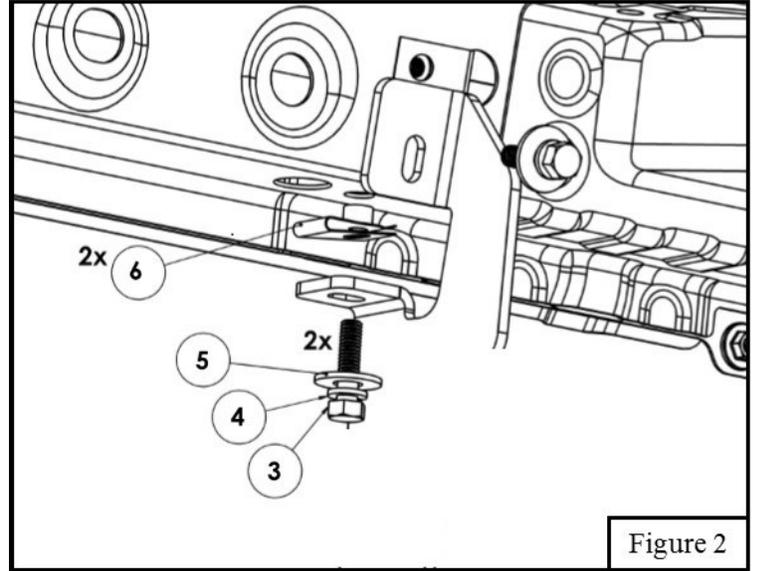

Figure 2
2. Locate (1) Mounting Bracket (Item 2) and loosely secure it to the rocker panel using the provided hardware: (2) Long M8 hex head bolt, (2) M8 flat washer, (2) M8 lock washer, and (2) M8 u-nut clip. **See Figure 2.**